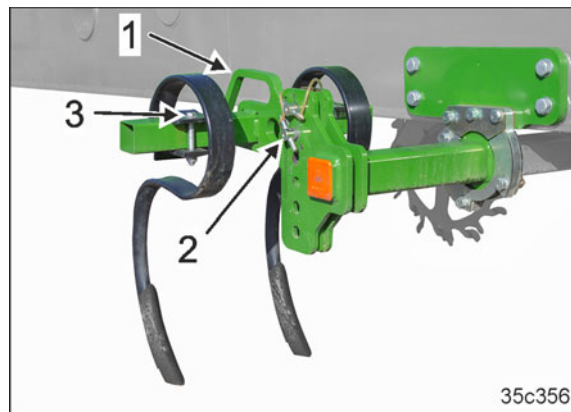

Fig. 202
1. Tighten and lock the bolt (Fig. 202/3) after adjusting the wheel mark eradicator.
1. Hold the wheel mark eradicator by the handle (Fig. 202/1).
2. Remove the pins (Fig. 202/2).